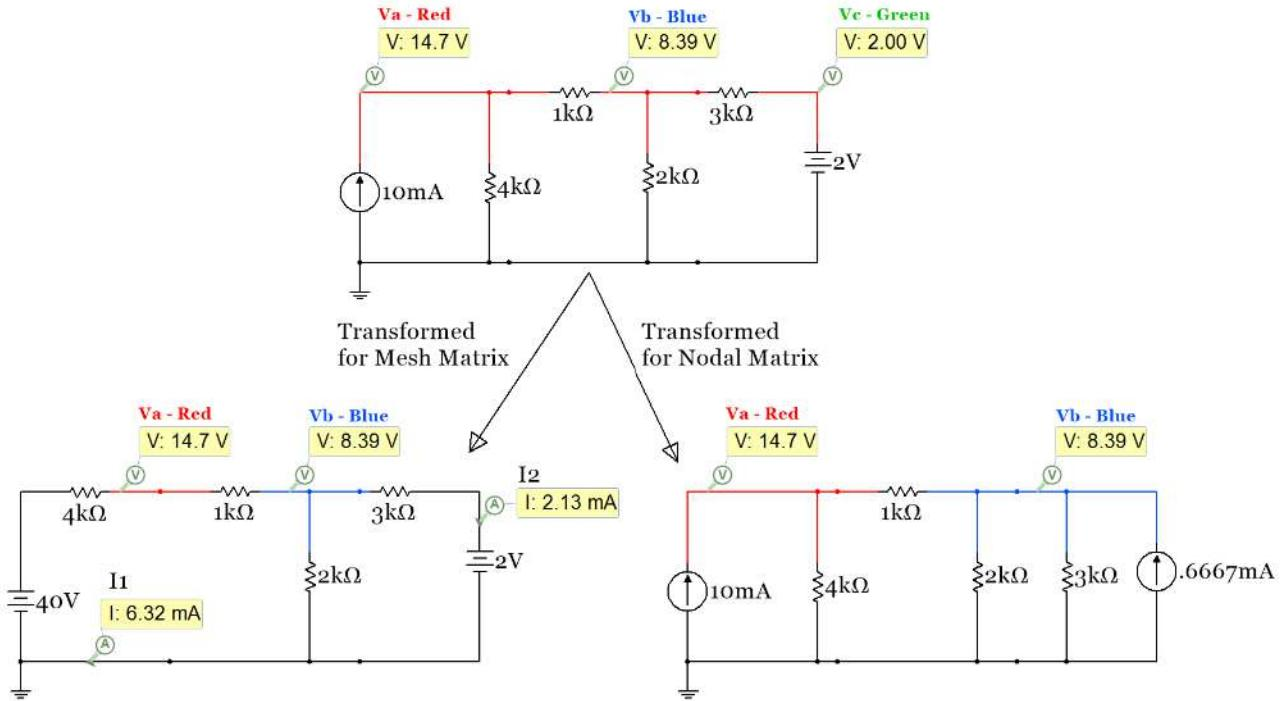

Figure 2.25: Circuit in Figure 2.23 transformed to a circuit with only voltage (left) or current sources (right).
Multisim probes for I_1 and I_2 are also shown in the bottom left circuit in Figure 2.25 because we will first get these values from Mesh Matrix analysis and use them along with Module 1 techniques to find V_A and V_B .
These current values match the Multisim probes in Figure 2.25. Now V_A and V_B are calculated as follows:
- 4) **The diagonal of the A matrix (cells A_{11} , A_{22} , A_{33} , etc.) is populated by adding the conductance value of each resistor touching the corresponding node.** For example, A_{11} for the circuit in Figure 2.25 is the sum of all of the conductance values of the resistors touching Node A. $\rightarrow A_{11} = (1/4000 + 1/1000)$
- 5) **The off-diagonal cells of the A matrix always have a negative sign and are populated by adding the conductance value of each resistor touching the 2 nodes that correspond to the cell and multiplying the sum by -1.** For example, the A_{12} cell (which can also be thought of as the V_{AB} cell) in the matrix is found by adding the conductance value of each resistor touching both nodes A and B and multiplying the sum by -1. Like described for the Mesh Matrix method the A matrix is symmetric. An example calculation is A_{12} for the circuit in Figure 2.25. It is the sum of all of the conductance values touching both nodes A and B (multiplied by -1). $\rightarrow A_{12} = A_{21} = -(1/1000)$